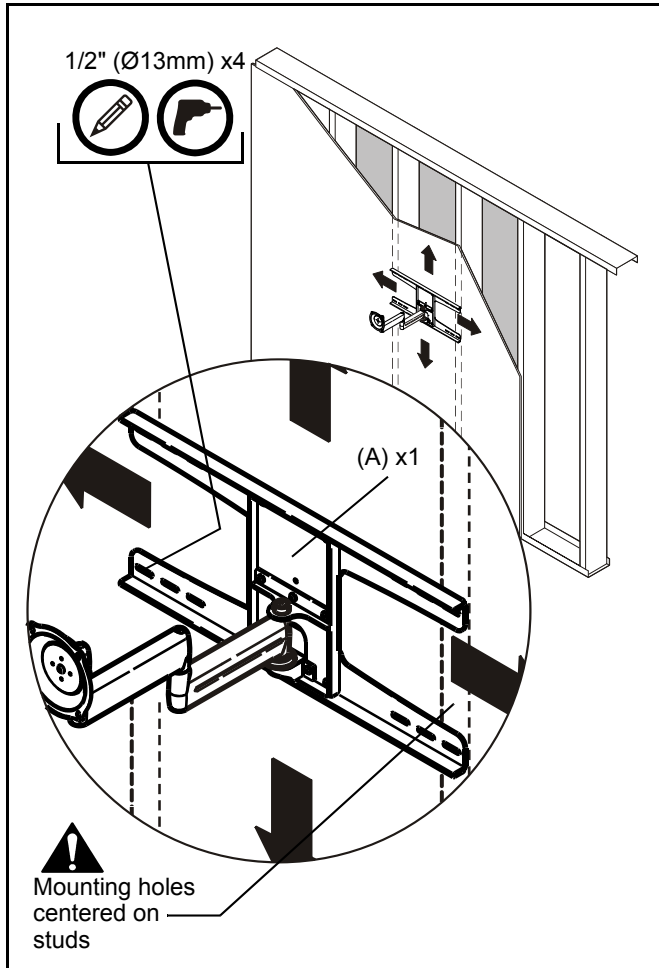

Figure 2
3. Align mounting holes in mount with studs making sure mounting holes are centered on studs. (See Figure 2)
5. Drill four 1/2" (Ø13mm) holes. (See Figure 2)